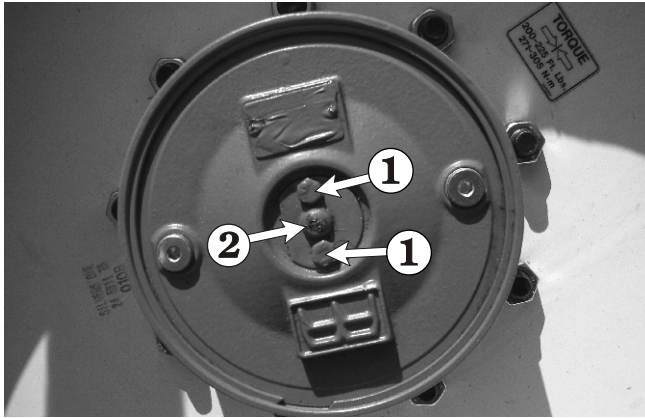

Figure 11.9—Drive Wheel, From NZ080829
9. At each drive wheel, undo and remove the bolts **1**, turn the plate **2** over, re-insert the bolts and do them up (refer to Figure 11.9).